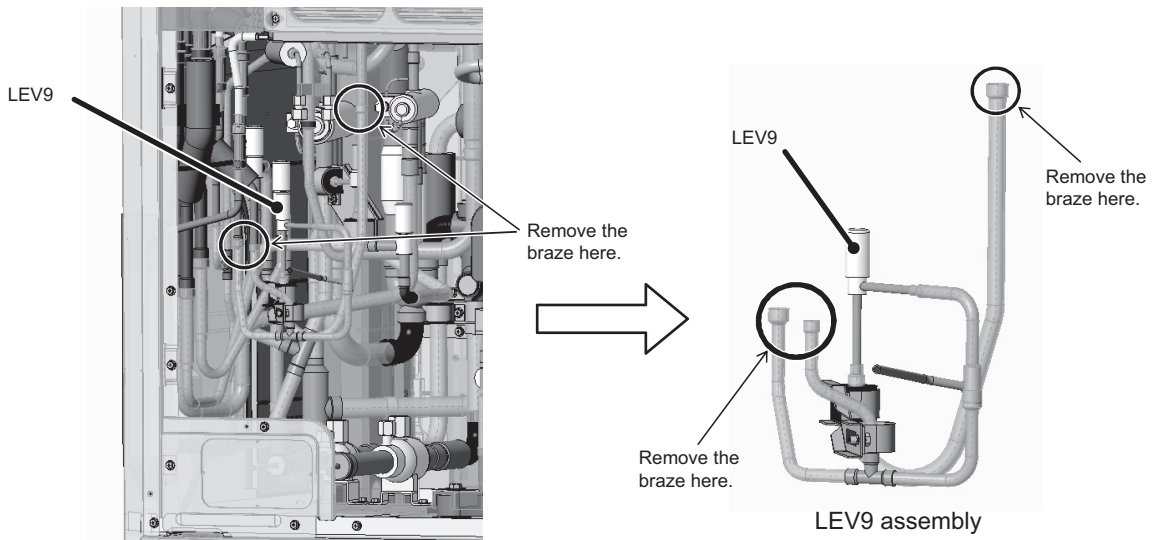

Figure 7
(7) Remove the braze at the three areas circled in the figure to remove LEV9 assembly. (See Figure 7.)